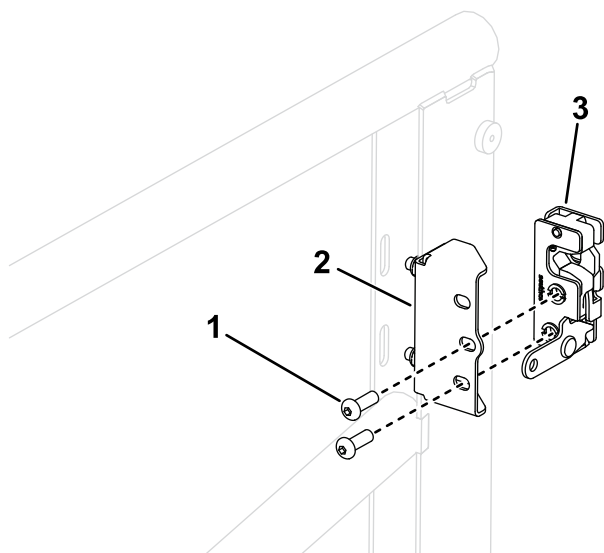

Figure 6
7. Install the left door latch to the door latch bracket as shown in Figure 6; torque the hex-socket head bolts to 10 to 12 N·m (90 to 110 in-lb).